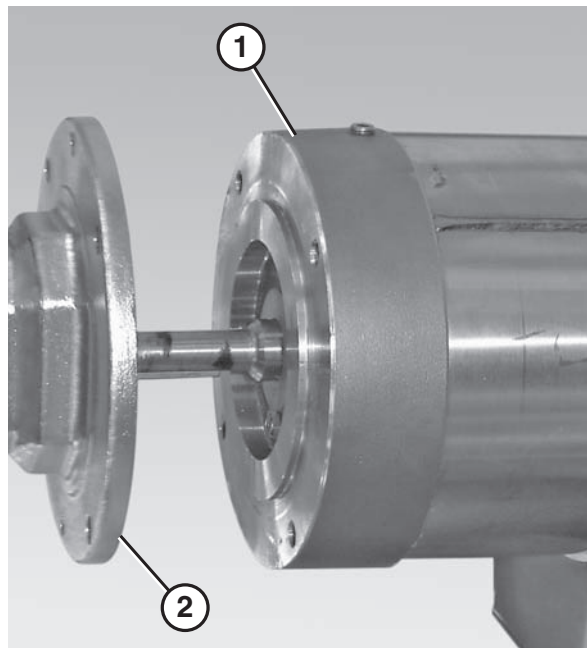

Figure 36
1. Attach the motor (**Figure 36, item 1**) to the gear reducer (**Figure 36, item 2**).